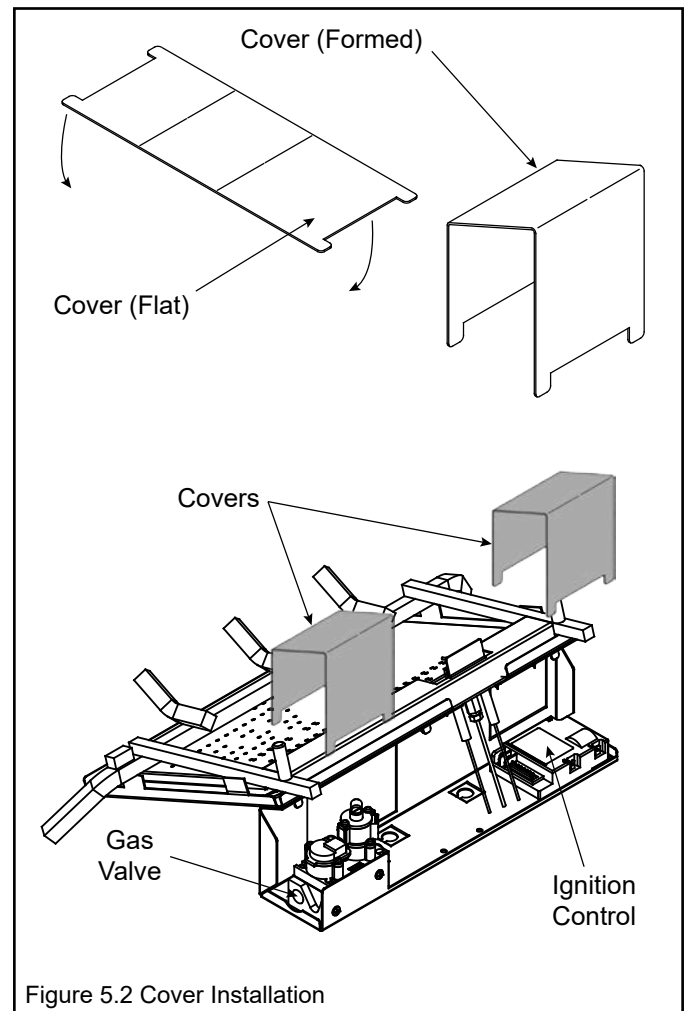

Figure 5.2 Cover Installation
1. Form Covers as shown. See Figure 5.2.
2. Install Covers so that they cover the appliance gas valve and ignition control module completely. See Figure 5.2